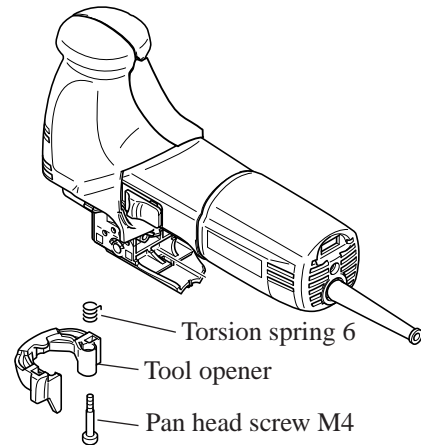
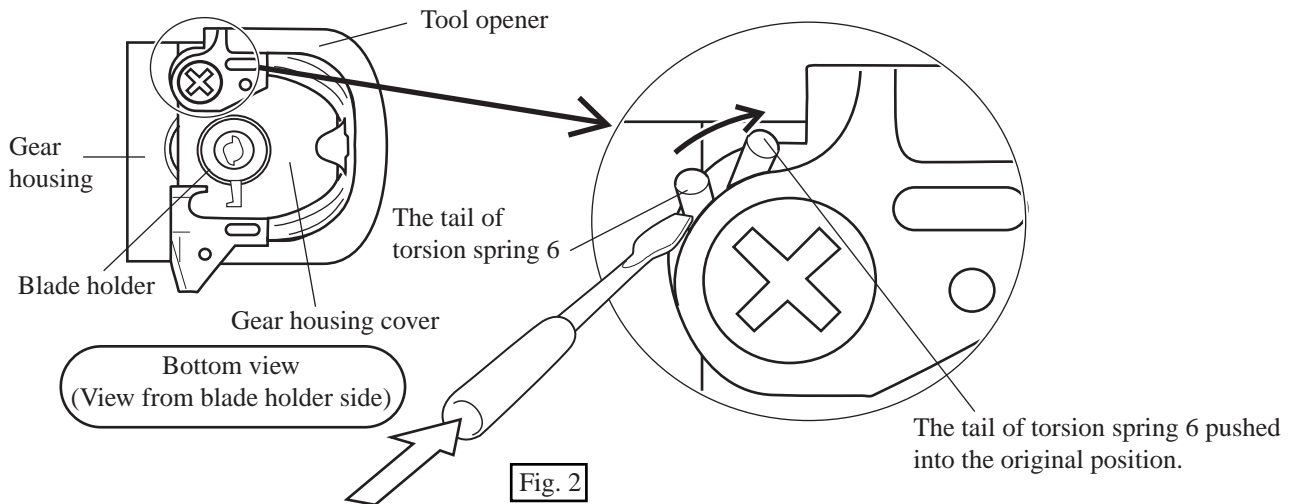

Fig. 1A
Fig. 2
2. Unscrew pan head screw M4. Then tool opener and torsion spring 6 can be disassembled. See Fig. 1A.
1. Put torsion spring 6 into tool opener. And fasten tool opener with pan head screw M4. See Fig. 1A above.
2. Bring the tail of torsion spring 6 which is extruding from tool opener, to the original position by turning it clockwise. See Fig. 2.
1. Assemble tool opener to gear housing cover with referring to Fig. 1A and Fig. 2 at page 3.